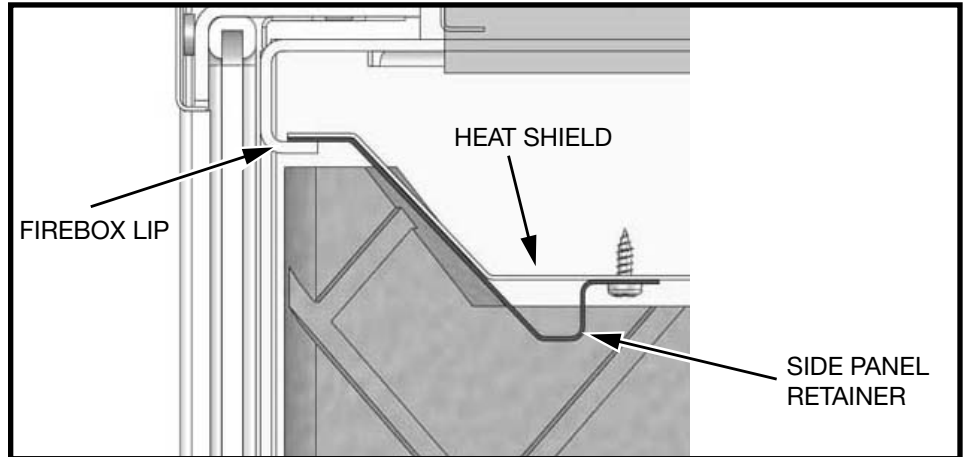
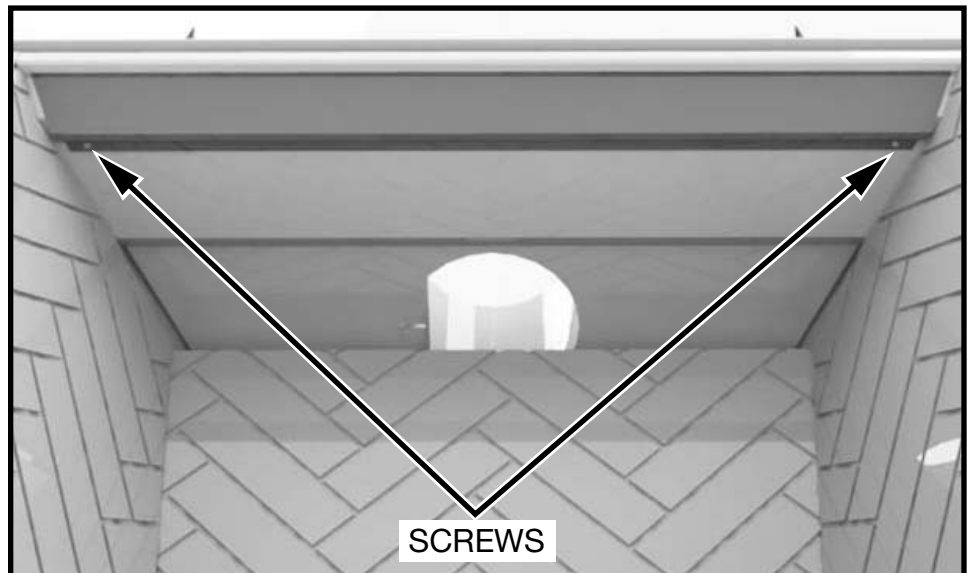

Figure 47: Side retainer.
Figure 48: Retainer panel screws location.
1. Remove the Side Panel Retainer (Figure 47) located on the underside of the firebox heat shield. The retainer slips between the lip of the firebox and the heat shield and is retained in place by two screws (Figure 48).